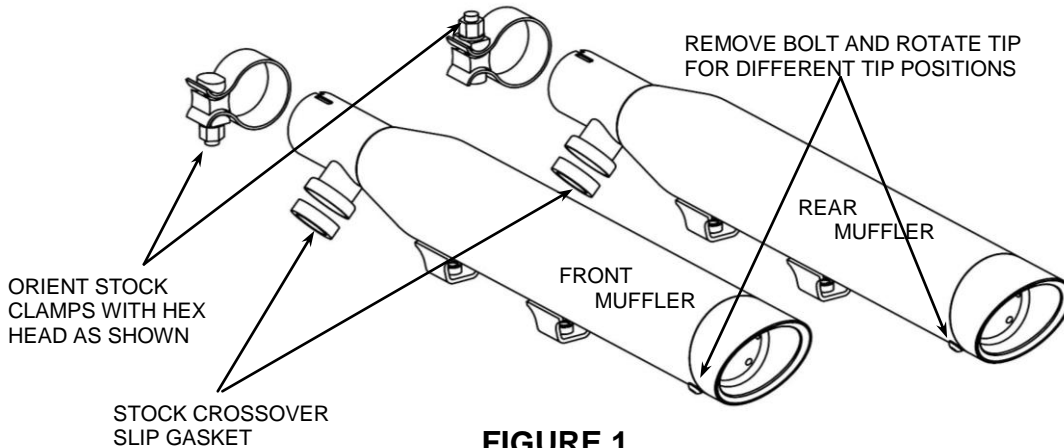

FIGURE 1
6. Slide the stock clamps over the slip-on mufflers and position them as shown in **Figure 1**.